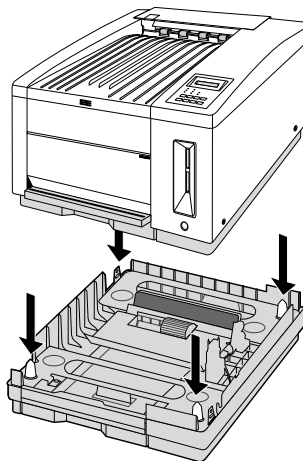

Fig. 8.1 Lower Printer onto the Sheet Feeder
2. With the help of another person, pick up the printer by the four corners and align it above the sheet feeder (fig. 8.1).
3. Keeping the printer level, lower it onto the sheet feeder (fig. 8.1). The bottom side edges of the printer rest inside the sides of the sheet feeder.